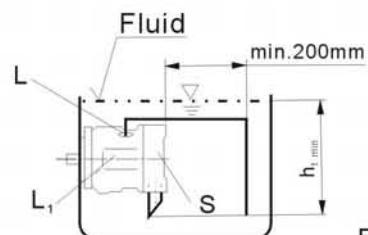

Fig.3
- If the minimum fluid level is above the top of the pump, port "L1" closed, "L" and "S" should remain open, L piped and recommendation S piped (see Fig.3)